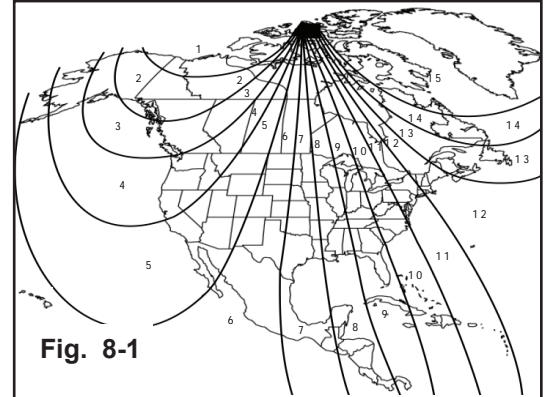

Fig. 8-1
- a) The zone setting is factory preset to zone 8. Refer to Compass Calibration Zone Map (Fig. 8-1) to find the correct compass zone setting for your geographical location. Same map is in User Guide as well.